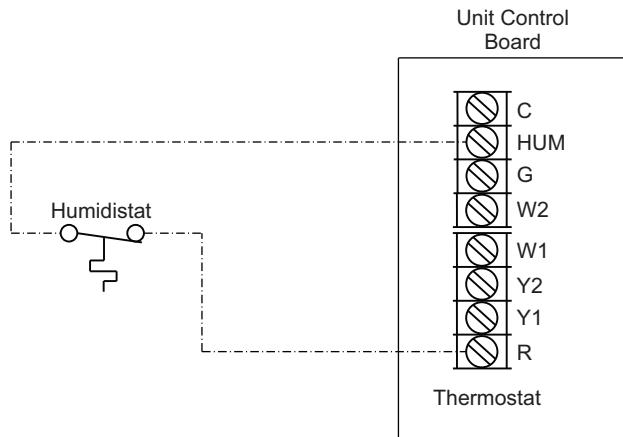

Fig. 55 — Humidistat Connections to UCB
3. Connect one of the leads from the 2-conductor cable to the HUM terminal on the UCB (Unit Control Board). Connect the other lead to the R terminal on the UCB. See Fig. 55.